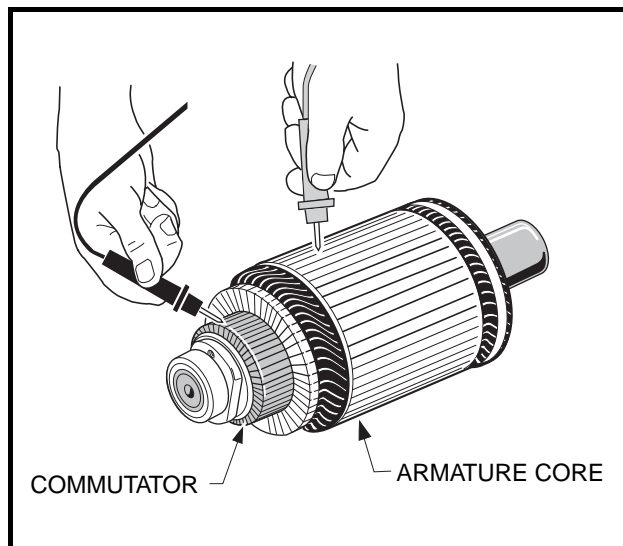

Figure 16-7 Armature Test
1. With a multimeter set to 200 ohms, place one probe on the commutator and the other on the armature core. The multimeter should indicate no continuity (**Figure 16-7, Page 16-6**). If the reading is incorrect, replace the armature.